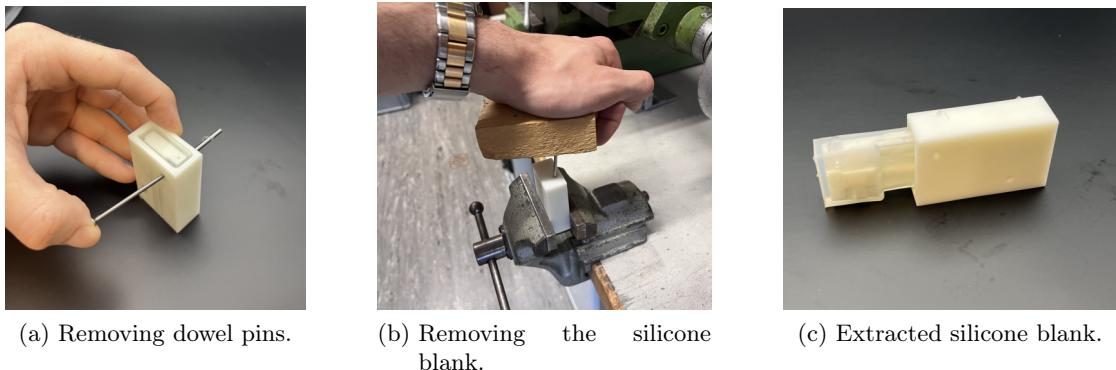

Figure 2.9: Removing the silicone blank from the mold.
1. Once cured, remove the dowel pins (Fig. 2.9 a).
2. Gently remove the silicone blank from the mold (Figs. 2.9 b and 2.9 c).